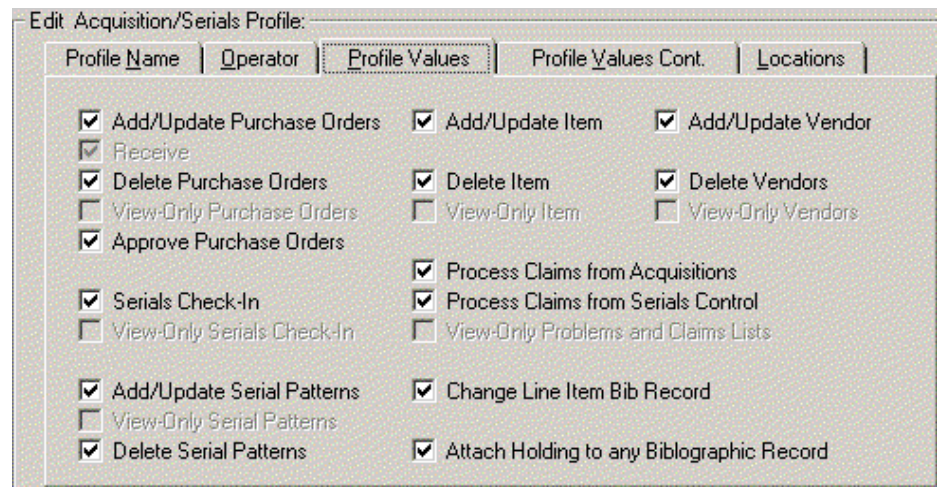

Figure 9-3. Profile Values tab (System Administration module)
- Operators can perform tasks and operations if the **Serials Check-In** check box is selected in the **Profile Values** tab of the operator's Acquisitions/Serials Security Profile (see Figure 9-3).